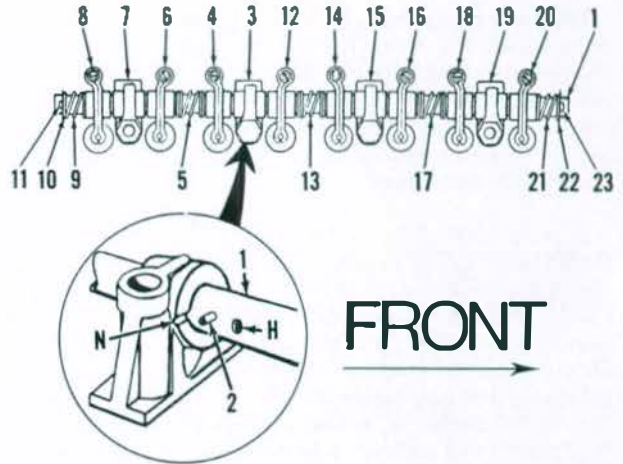

Fig. 36—Drawings showing the offset of rocker arms and installation of pin (2) in notch (N) of the third bracket (3). Refer to Fig. 35 for legend.
notch (N) in front face of the third support bracket (3). Begin assembly by installing pin in notch of bracket as shown in Fig. 36. Install one rocker arm (4—Fig. 35) stamped "7R", spring (5), rocker arm (6) stamped "8L", another bracket (7), another rocker arm (8) stamped "7R", short spring (9), washer (10) and cotter pin (11) to the short end of shaft. Install remaining parts to longer end of shaft as shown in Figs 35 and 36. Rocker arms (4,8,14 and 18) are alike and stamped "7R". Rocker arms (6,12,16 and 20) are alike and stamped "8L". Springs (5,13 and 17) are identical as are support brackets (3,7,15 and 19). Short spring (9 or 21), washer (10 or 22) and cotter key (11 or 23) are used at each end.
Fig. 35—Exploded view of rocker arm assembly. Oil holes (H) must be toward valve side and rocker arms must be offset as shown in Fig. 36. All brackets have notch (N), but pin (2) engages notch in third bracket (3).